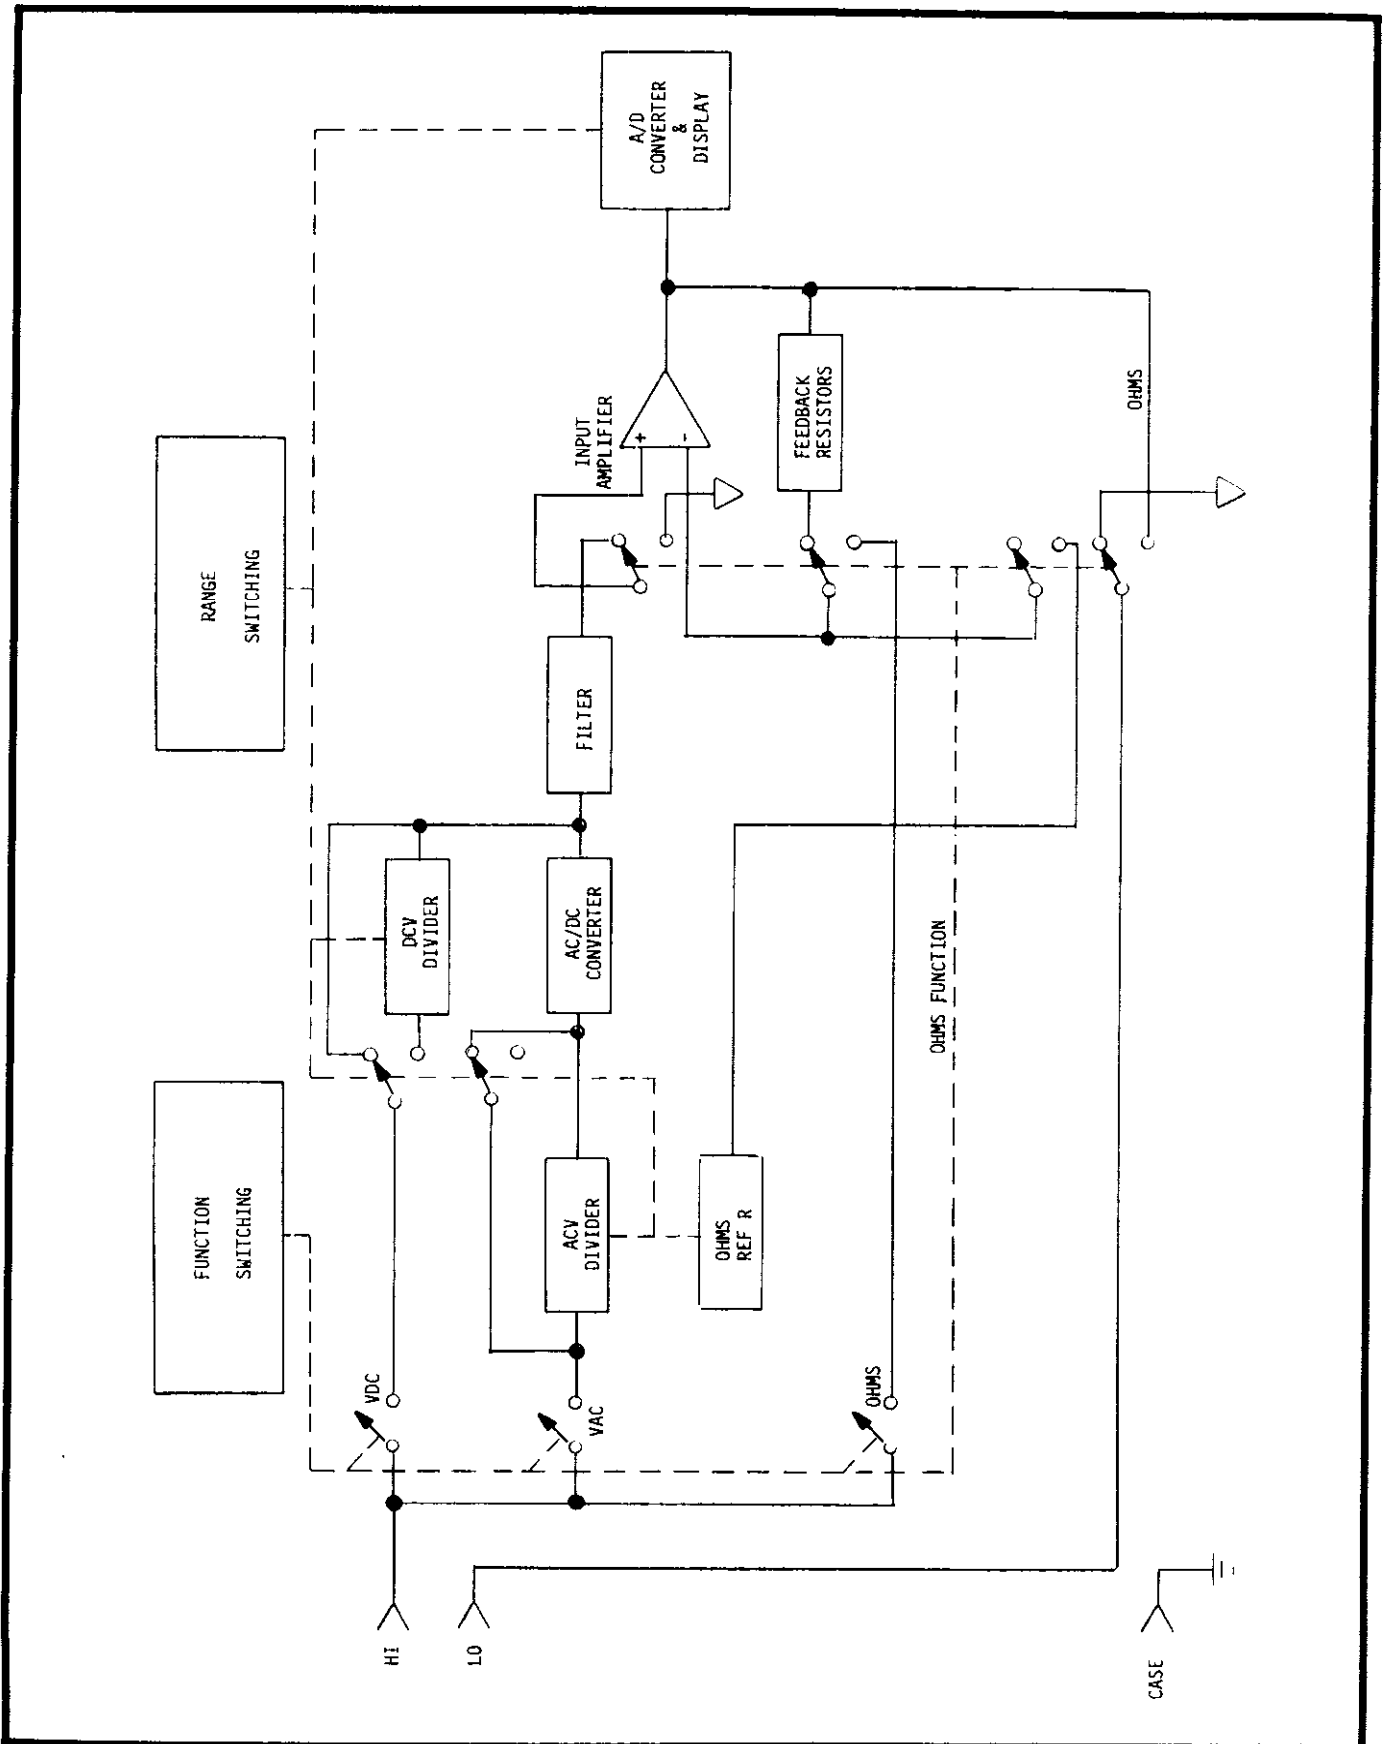

FIGURE 5. Block Diagram of Function and Range Switching.
d. Signal Switches (See Figure 5). Comprised of Q110, Q116, and Q117, these solid state switches provide high speed, low leakage paths for signals applied to the Integrating Amplifier. These switches are driven by logic levels from the Digital Assembly with Q109 and Q111 through Q115 supplying buffering.